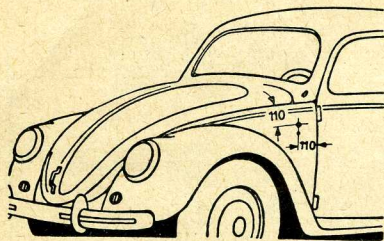

Fig. 6 110 mm = 4,34"
- a) Using the drilling template supplied, drill holes as shown in Fig. 6.